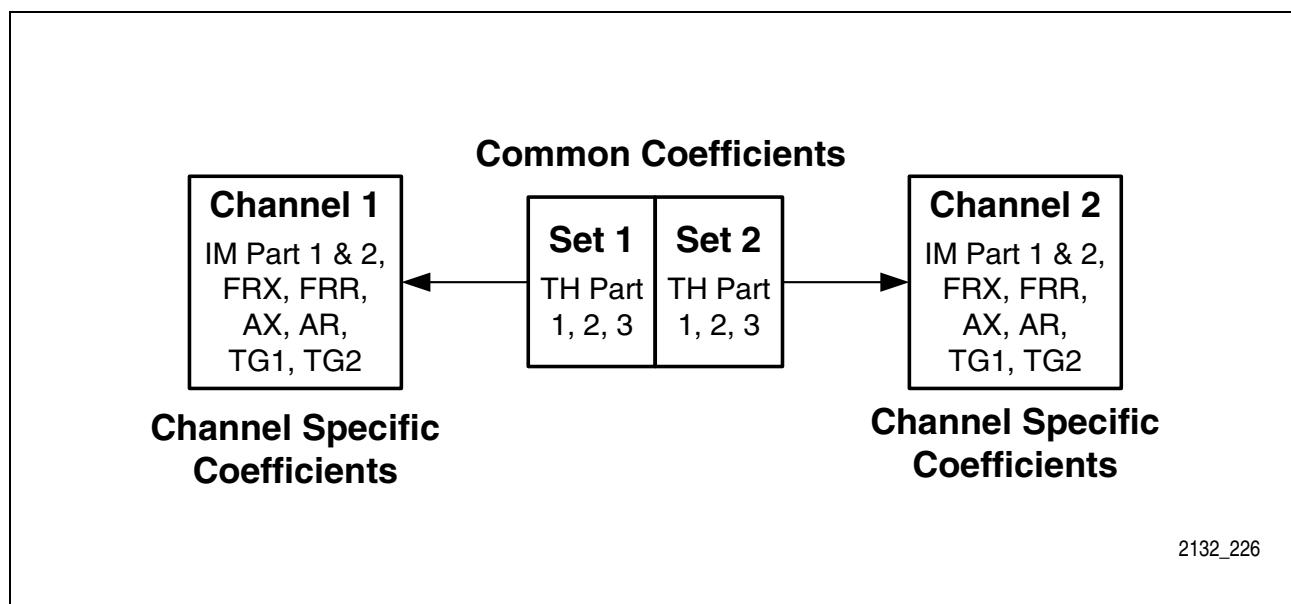

Figure 22 Channel-Specific and Common Coefficients
Channel-specific coefficients always belong to their designated channel. Common coefficients (TH) can be assigned to any of the two channels through field TH-SEL in CR0 (see **Figure 22**).